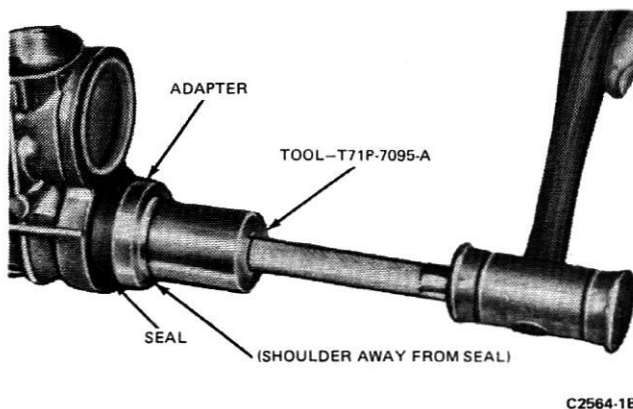

FIG. 19 Installing Typical Extension Housing Seal
1. Install the new seal in the extension housing using Tool No. T71P-7095-A (Fig. 19).